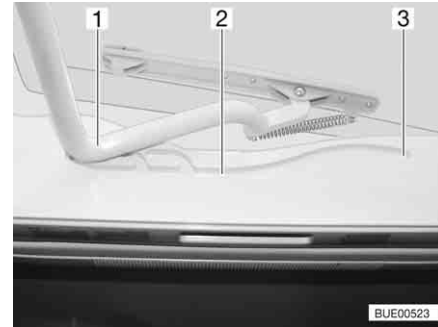

Fig. 88 Heki skylight, guide
- Pull the bar (Fig. 88,1) in the guides (Fig. 88,2) to the rearmost position (Fig. 88,3).
- Use both hands to push the bar (Fig. 88,1) slightly upwards.
- Pull the bar in the guides (Fig. 88,2) to the desired position.